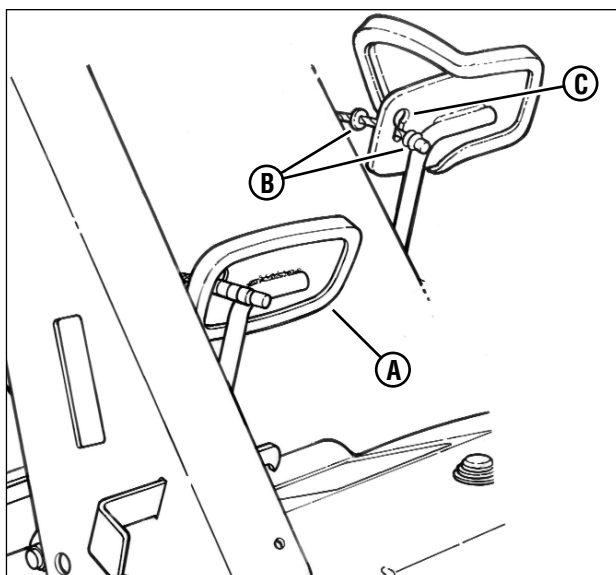

Figure 37: Clutch/brake cable adjustment
5. When belt adjustment is complete, it will be necessary to check Clutch/Brake Cable slack. Disengage the parking brake and allow the pedal (**A**, **Figure 37**) to remain in the engaged wheel drive (Up) position. The clutch/brake cable should have approximately 3/16" of slack. If the cable does not have slack adjustment of cable must be performed: